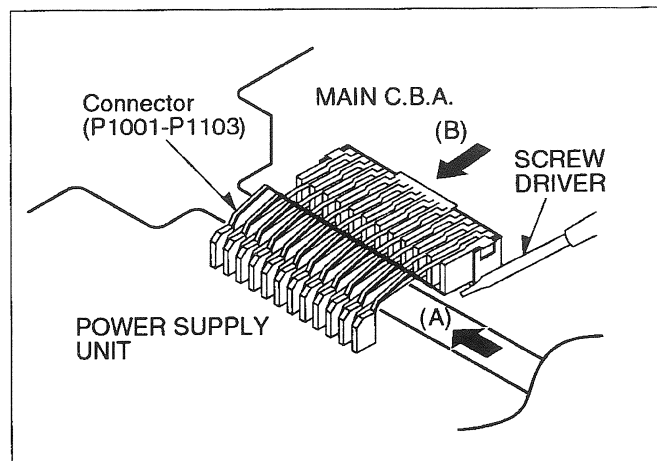

Fig. D6
Please pay an attention to disconnect the connector (P1001-P1103) which connected between Main C.B.A. and Power supply unit as shown Fig. D6.
As shown Fig. D6, disconnect the connector by SCREW DRIVER from the direction (A).